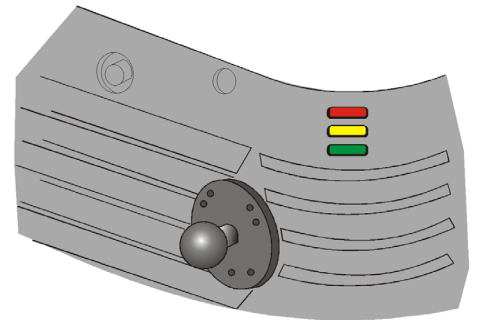

Figure 5-1 Projector Status LEDs
2. Check the status of the LEDs on the rear corners of the projector. (Figure 5-1). If there is no activity, see #3.